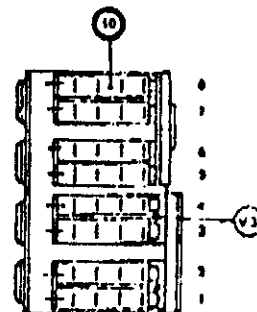

Fig. 27
2. *Insulating strips.* When replacing contacts, it is recommended that the insulating strips be replaced also. Using a screwdriver, remove two fasteners (4) retaining insulating strip (3). Replace strips using new fasteners.
- C. Auxiliary Contact Block (Fig. 27). When removing contact blocks (1-4), place breaker in closed position before loosening contact cradle bolt V3. Slide cradle free of V3 and remove contact assemblies. To replace contact blocks, reverse procedure making sure wires are returned to their original positions.